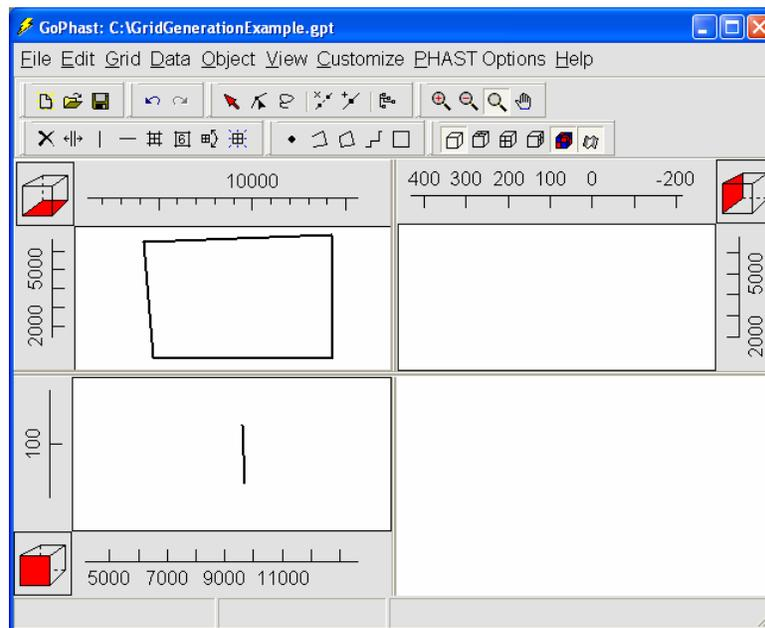

Figure 9. The objects used to define the position of the grid.
Figures 9 to 14 illustrate examples of creating grids by using objects.
1. The user draws two objects to define the grid location and the size of the elements: a polygon on the top view of the model and a line on the front view of the model (fig. 9). (To create objects, see “Creating, Selecting, and Editing Objects in GoPhast” on p. 28 and the **Object** menu item on p. 48.) In this example, the size of the elements are set in the **Object Properties** dialog box (p. 49) to 500 meters in the horizontal direction (top view, fig. 9) and 10 m in the vertical direction (front view, fig. 9).